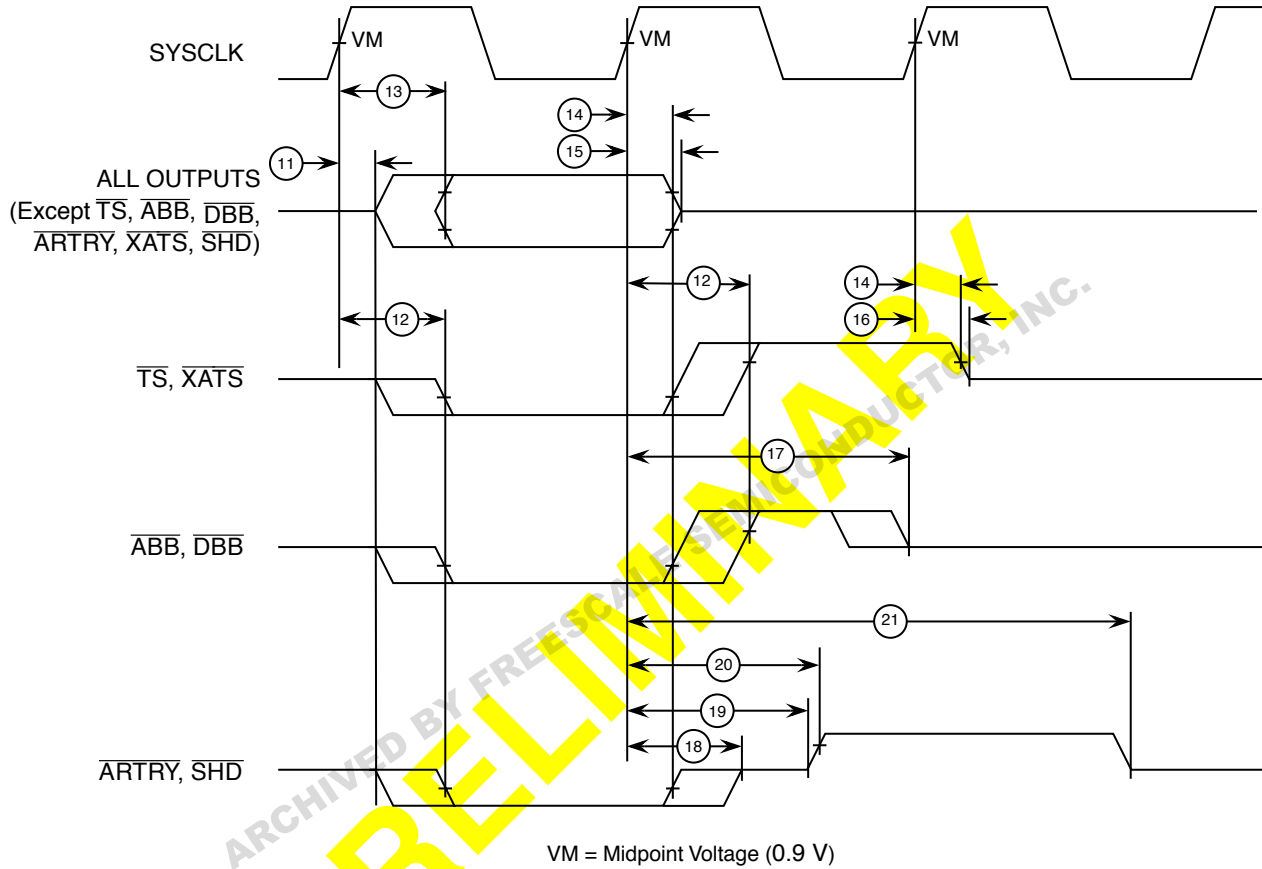

Figure 4. Output Timing Diagram
Table 8 provides the output AC timing specifications for the 604e (refer to Figure 4).
1. All output specifications are measured from the 0.9 V level of the rising edge of SYSCLK to the TTL level (0.5 V or 2.0 V) of the signal in question. Both input and output timings are measured at the pin (see Figure 4).
Figure 4 provides the output timing diagram for the 604e.